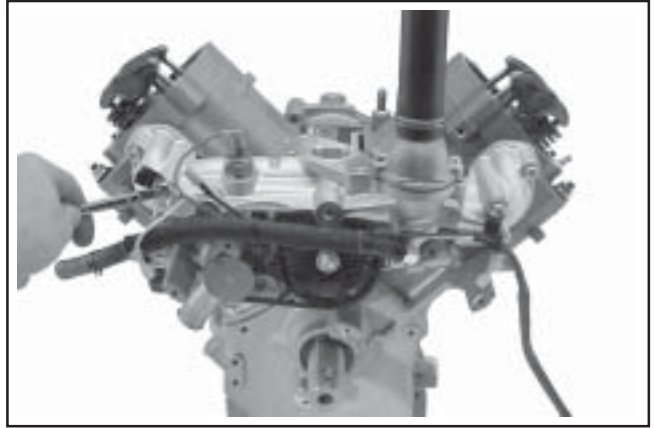

Figure 9-42. Removing the Six Intake Manifold Screws.
2. Remove the six mounting screws and carefully separate the intake manifold from the cylinder heads, with the by-pass hose and wiring harness attached. See Figures 9-42 and 9-43.